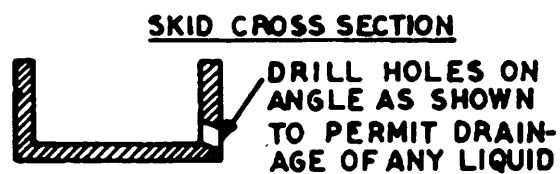

Figure 5-15. Tank Assembly, Skid Drain Holes.
(2) No repair will be initiated on the tank until it has been thoroughly vented and cleaned. Before attempting to do any welding repair on the tank, drill four 1-½ in. dia. drain holes in each skid (total of 8 holes required). For the location of drilling points, see figure 5-15. Provide corrosion protection to drilled holes and leave open. If there is evidence of fuel inside the skids when holes are drilled, purge the skids by steam cleaning or other suitable method. Test for leaks by filling the tank approximately ¼ full of water, sealing all holes in skid except one and applying compressed air (not